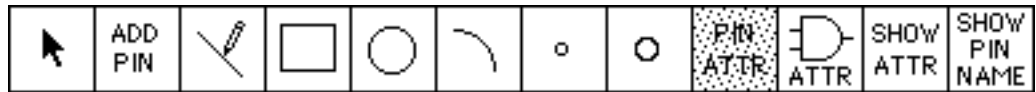
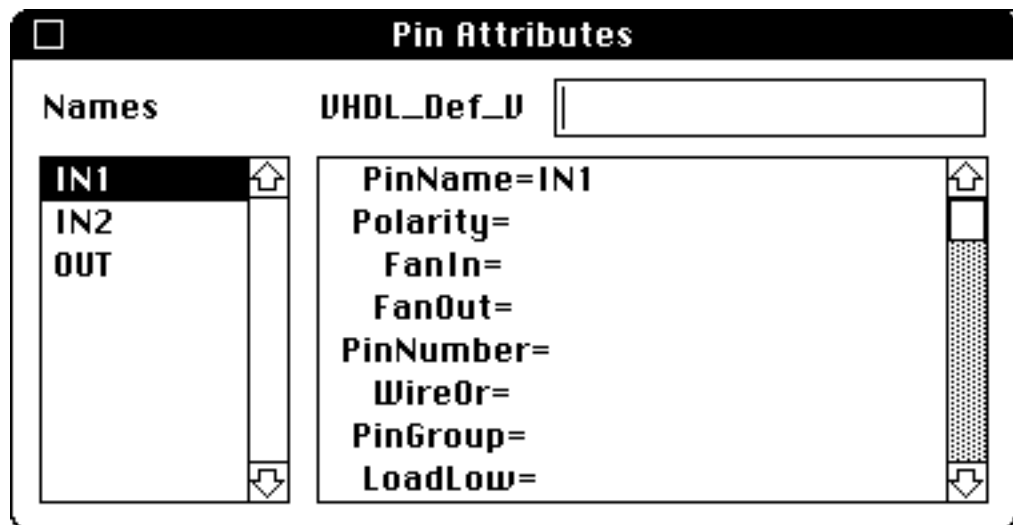

Figure 4-6 *Add->Pin Attributes Command in the Symbol Editor Tool Palette*
Figure 4-7 *Pin Attributes Dialog Box*
1. Select **Add->Pin Attribute** from the menu or the tool palette (see Figure 4-6). This displays the Pin Attribute dialog box as shown in Figure 4-7.
Pin attributes are characteristics or properties associated with a pin. *PinName*, *Polarity*, *Fanin*, *Fanout*, and *PinNumber* are examples of pin attributes. Pin attributes are created using the ECS Preferences Editor and edited in the symbol with **Add->Pin Attribute**. When you select this command, the Pin Attribute dialog box is displayed (see Figure 4-7).